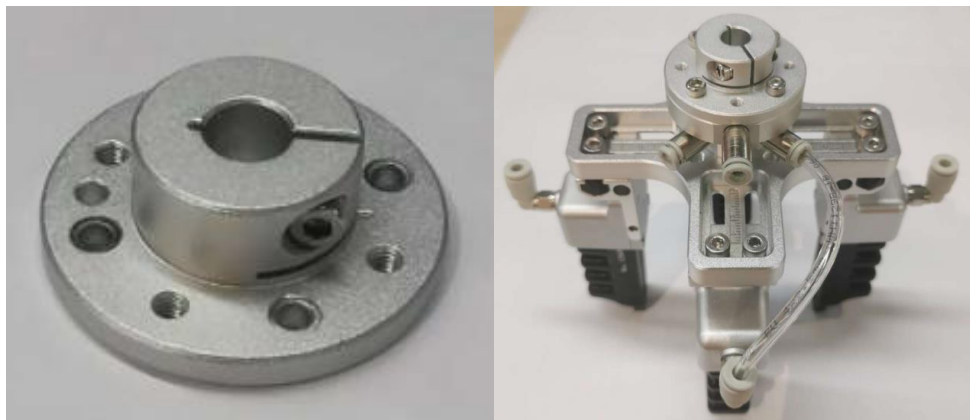

Figure 2.5 Install the end flange of MG400
**Step 5** Install the end flange of MG400 to connection block, and tighten four screws; install the PU tube, as shown in Figure 2.5.